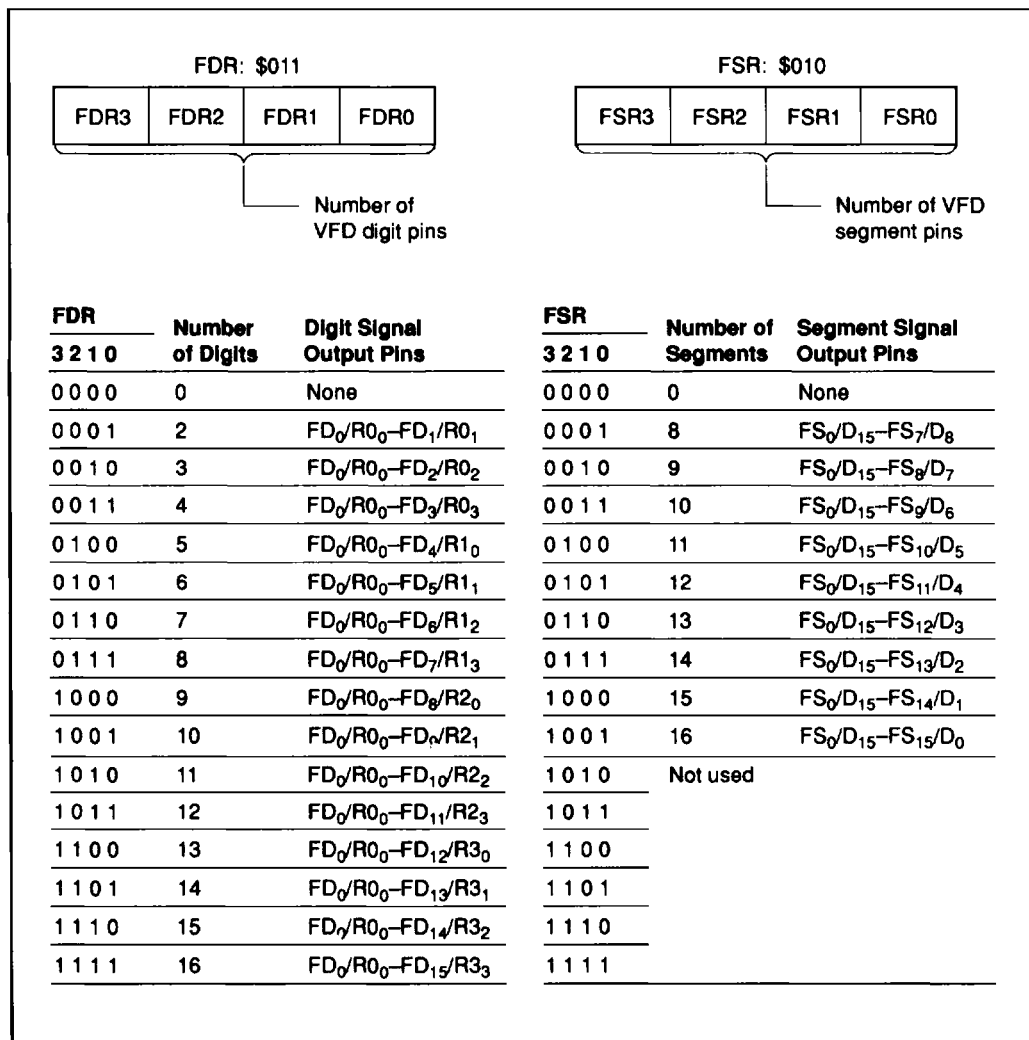

Figure 46 VFD Digit Register and Segment Register
**VFD Digit Register (FDR: \$011), VFD Segment Register (FSR: \$010):** Four-bit write-only registers which control the VFD driver pins (figure 46). The pins not selected by these registers are used for general purposes. The pins selected by these